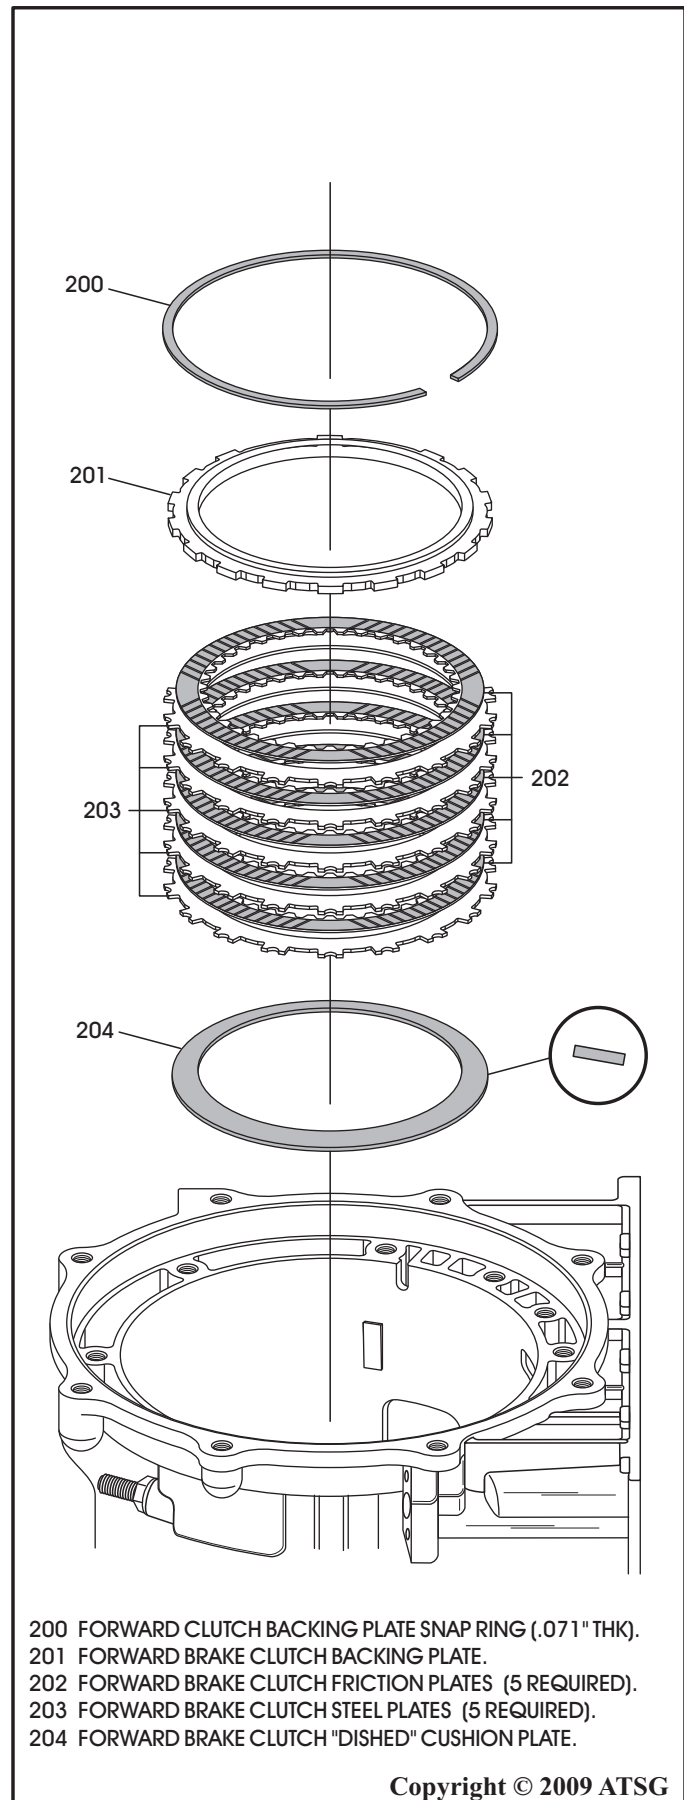

Figure 189
8. Install forward clutch "dished" cushion plate, as shown in Figure 189, with the "dish" facing down towards the forward clutch piston.
9. Install the forward clutch plates beginning with a steel plate and alternating with a friction until you have installed five of each, as shown in Figure 189.
10. Install the forward clutch backing plate into the case, as shown in Figure 189.
11. Install the forward clutch backing plate snap ring, as shown in Figure 189, and ensure that it is fully seated in the case.